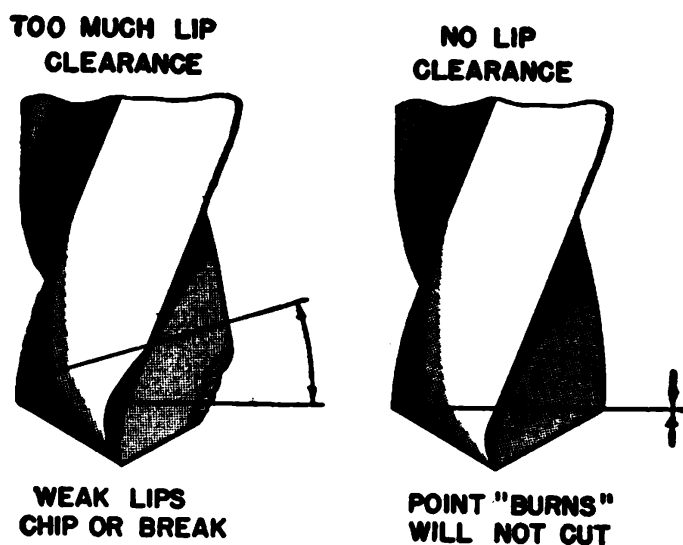

Figure 68.—Results of poor grinding.
**LIP CLEARANCE**—Only the two lips should contact the metal being drilled. The surface behind each lip must be ground back at an angle of 12 degrees—15 degrees to provide **CLEARANCE** for the lip. The results of too much clearance (and of no clearance) are pictured in figure 68.